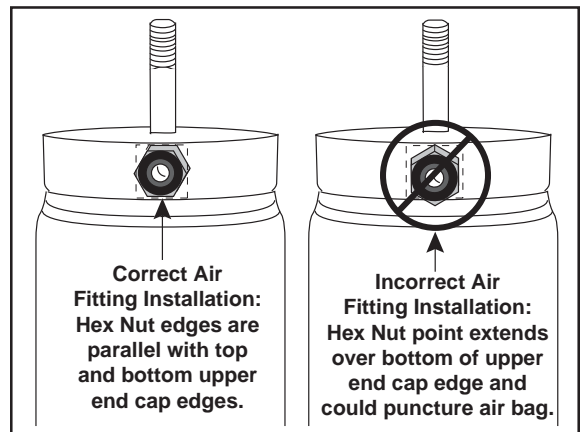

Figure 9
1. Apply loctite or a similar thread sealant to the air fitting (E). Insert the air fitting into the port in the upper end cap of the strut assembly (Figure 9).